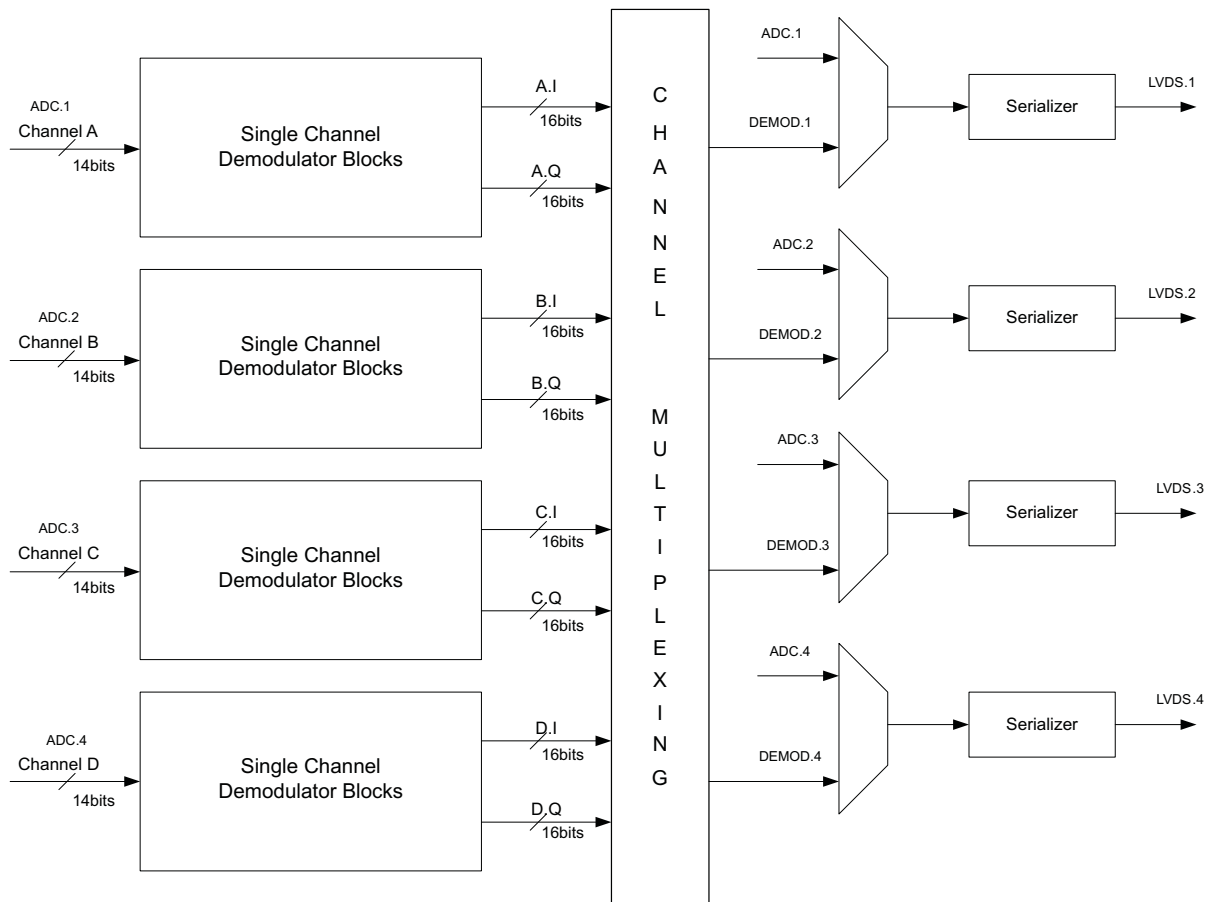

图 76. Channel Multiplexing
3. The decimator block has two functions: decimation filter and down sampler. Decimation filter is a variable coefficient symmetric FIR filter and its coefficients can be given using coefficient RAM. Number of taps of FIR filter is  $16 \times$  decimation factor (M). For decimation factor of M,  $8M$  coefficients have to be stored in the coefficient bank. Each coefficient is 14-bit wide. Down-sampler gives out 1 sample followed by  $M - 1$  samples zeros.
4. In 图 76, channel multiplexing is implemented for flexible data routing: